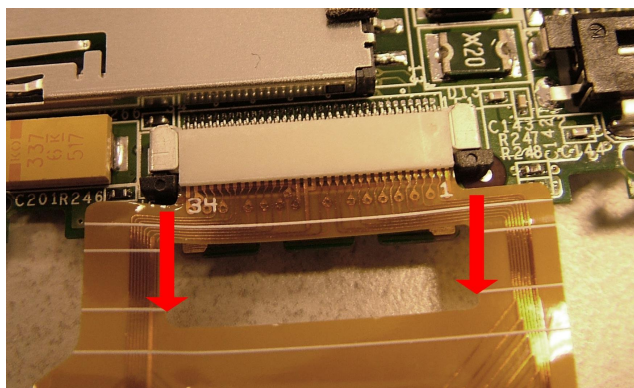

Fig. 8 Disconnecting the HDD flat cable.
5. In case you need to replace the main board, disconnect the HDD flat cable: Push the two clips in the indicated direction (see Fig 8) and take out the flat cable.